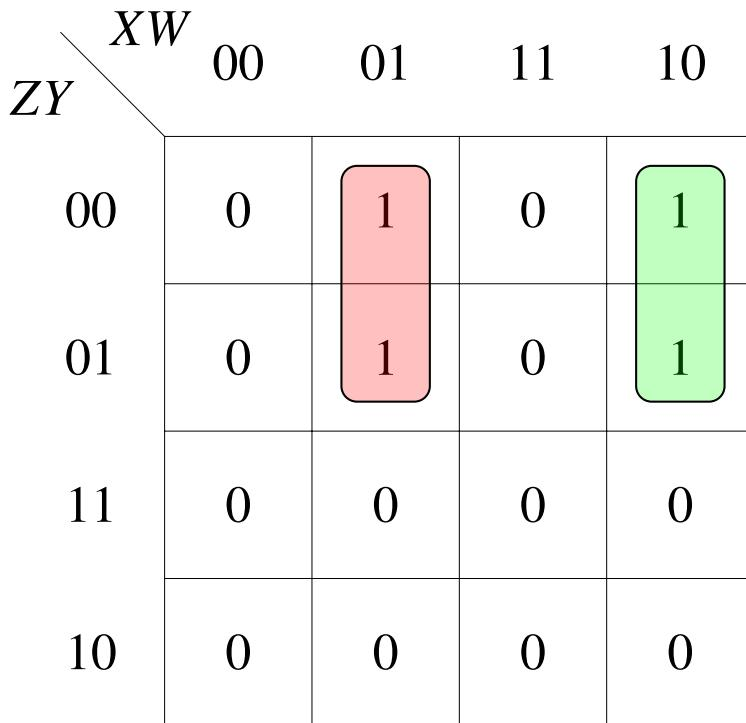

Fig. 4.2: K-map for B
3. K-Map for A : The expression in (4.1) can be minimized using the K-map in Fig 4.1. In Fig 4.1, the *implicants* in boxes 0,2,4,6 result in $W'Z'$. The implicants in boxes 0,8 result in $W'X'Y'$. Thus, after minimization using Fig 4.2, (4.1) can be expressed as
using Fig 4.2